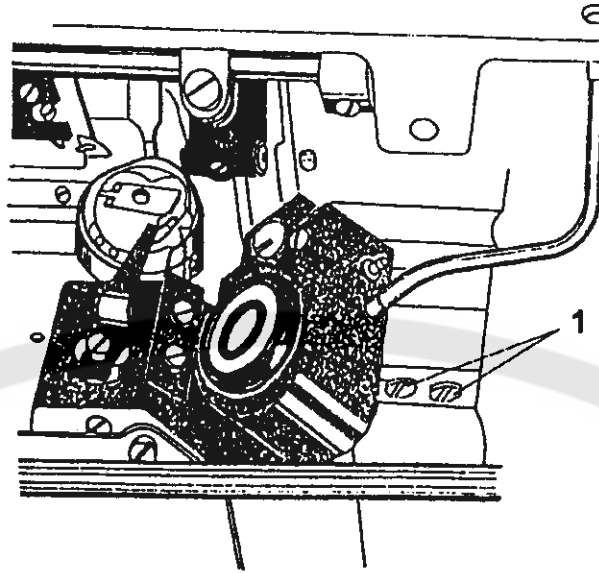

Fig. 14
21. To adjust the position of the needle bar with respect to that of the hook shaft (Figs. 14, 15)
After a substantial adjustment of machine mechanism should be checked the median (vertical) needle bar position with respect to that of the hook shaft. The hook shaft axis is displaced to the left of the needle bar axis. For adjustment, loosen the two screws (1, Fig. 14) ensuring the locking joint between the bed plate and the hook gear box. In correct position, the hook gear box is in direct contact with the lug of the bed plate. Lock the gear box position by tightening the two screws (1).